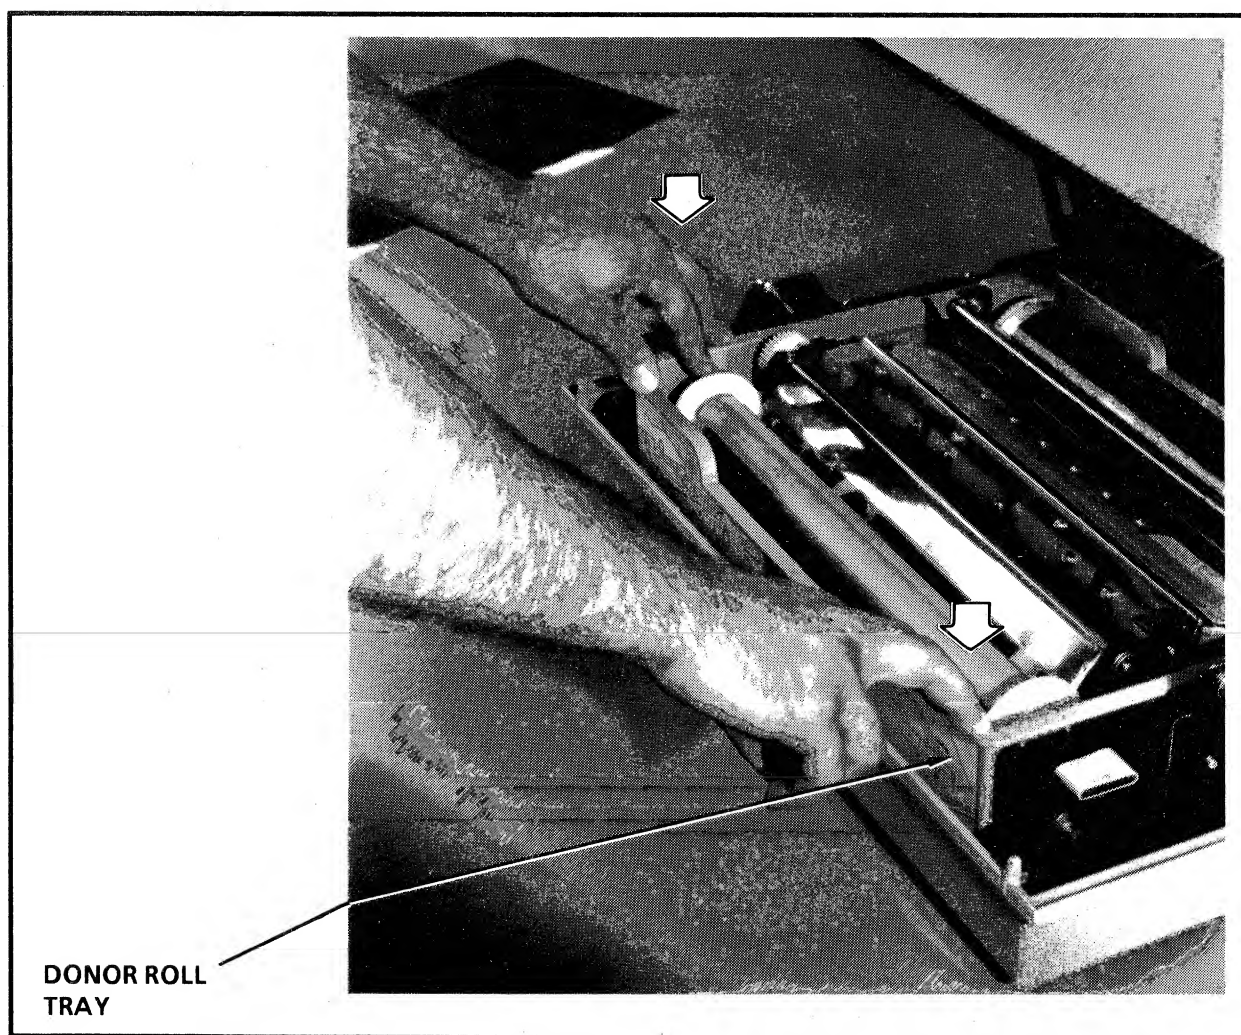

Figure 3-7. Seating the Tray and Tray Guide
9. Ensure the donor roll tray and tray guide are properly seated by gently pushing down on them (Figure 3-7). The winding gear adjacent to the take-up holder should fully engage the smaller drive gear directly beneath it.